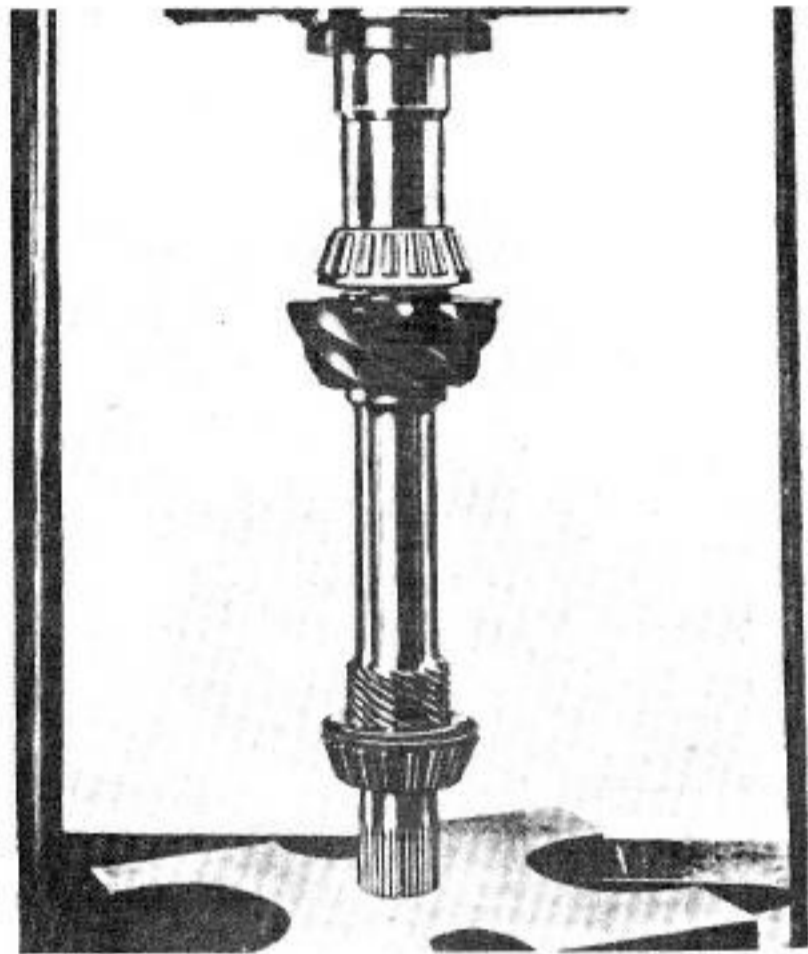

Fig. 11-16. Pressing cooled bearing inner races onto the pinion.
6. Heat the pinion tapered-roller bearing inner races to 100°C (212°F). Start them on the pinion. When the races have cooled, seat them completely under 3 tons (2721 kg) of pressure (see Fig. 11-16).